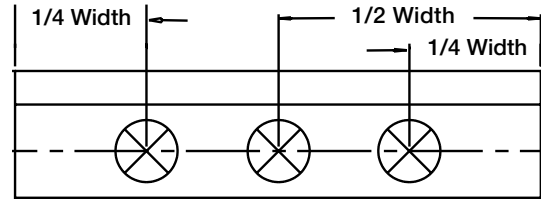

Fig. 35
- Velocity measurement should be taken at three locations per filter. These must be over the inlet opening as shown in Fig. 35.